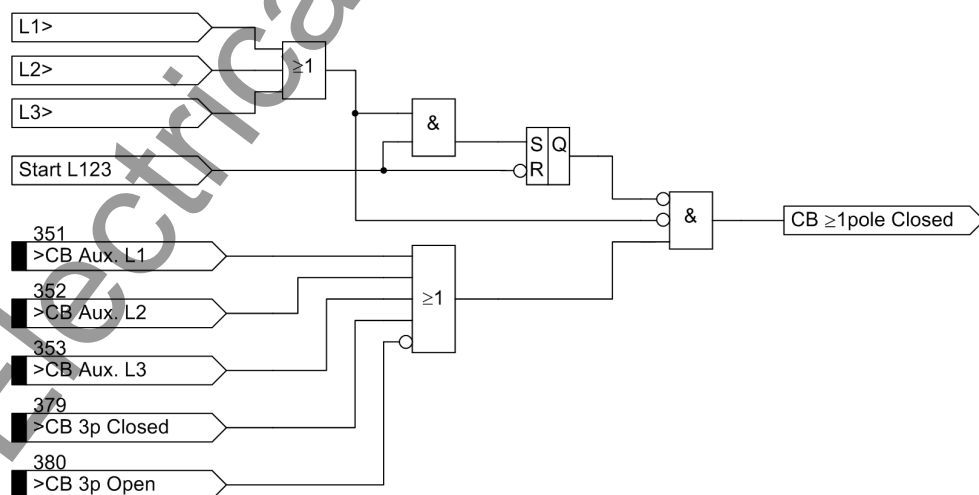
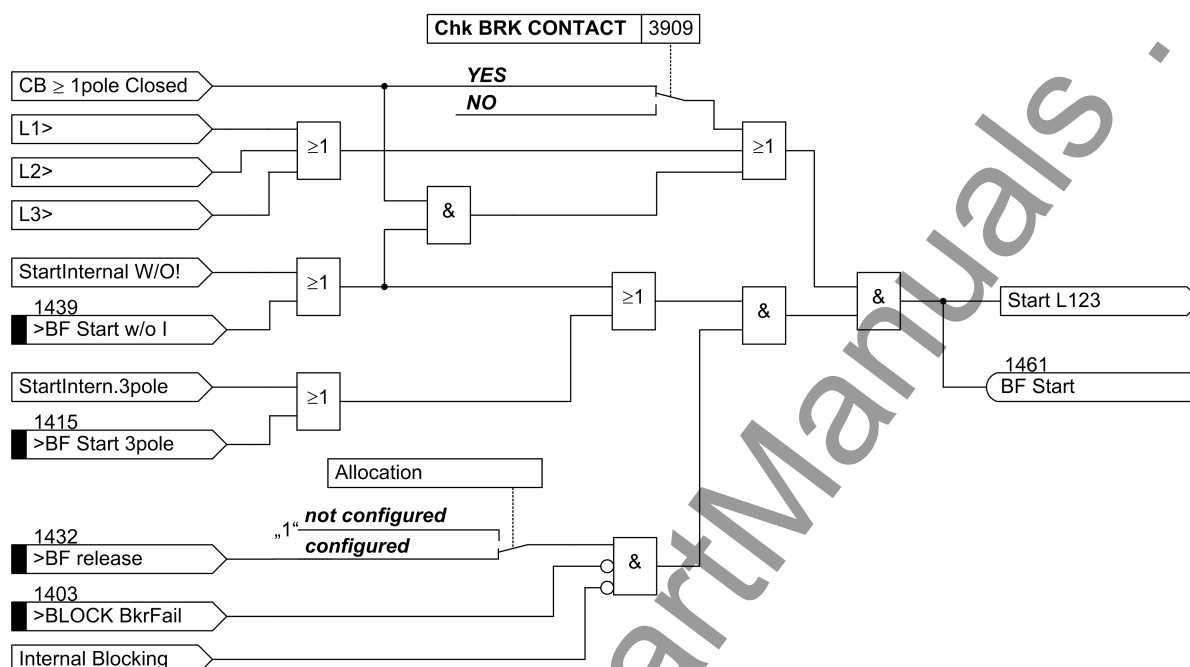

Figure 2-133 Creation of signal "CB $\geq$ any pole closed"
Figure 2-134 Breaker failure protection with common phase initiation
It is possible to disable the auxiliary contact criterion. If you set the parameter switch **chk BRK CONTACT** (Figure 2-134 top) to **NO**, the breaker failure protection can only be started when current flow is detected. The position of the auxiliary contacts is then not evaluated even if the auxiliary contacts are connected to the device.
(Figure 2-134 left). This input initiates the breaker failure protection even if no current flow is detected.
Figure 2-134 shows the operating principle. When the trip signal appears from any internal or external feeder protection and at least one current flow criterion (according to Figure 2-131) is present, the breaker failure protection is initiated and the corresponding delay time(s) is (are) started.
If the current criterion is not fulfilled for any of the phases, the position of the circuit breaker auxiliary contact(s) is queried provided that this is available according to Figure 2-133. If the circuit breaker poles have individual auxiliary contacts, the series connection of the three normally closed (NC) auxiliary contacts is used. The circuit breaker has operated correctly after a three-pole trip command only when none of the phases carries current or when all three NC auxiliary contacts have closed.
Figure 2-133 illustrates how the internal signal "CB pole $\geq$ L1 closed" is created (see Figure 2-134 left) if at least one circuit breaker pole is closed.